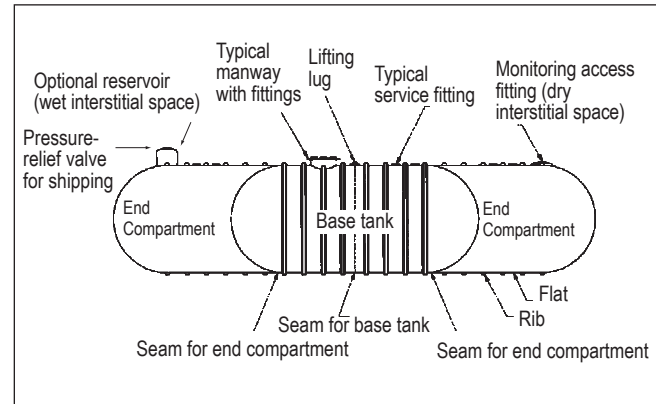

FIGURE 4-1
4.5.1.1. Install a test manifold in each compartment, that is, in the base tank and each end compartment. See *FIGURE 4-1*.